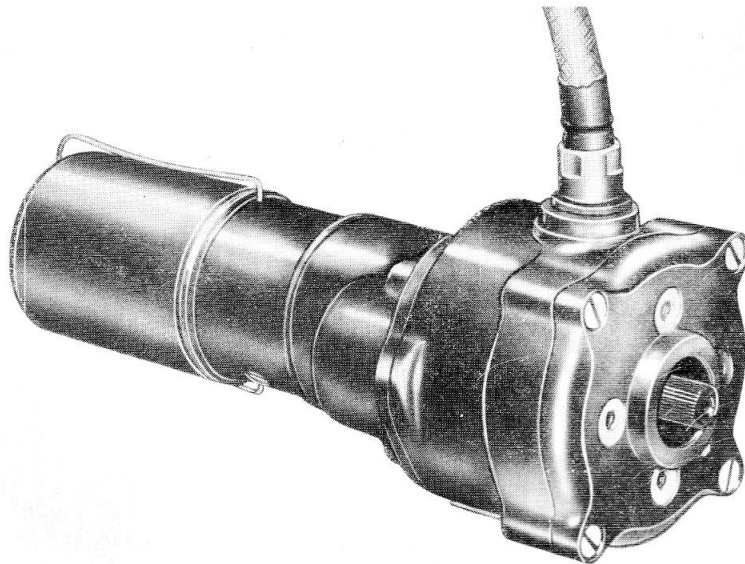

Fig. 1. Type C5511/2 actuator
1. This actuator (*fig. 1*) is generally similar to that described in the main chapter. The rotary movement of the output shaft is limited to 180 deg. by the two internal limit switches; on the external face of the end plate is a spigot marked by two sawcuts, which indicate the extremities of travel of a datum line cut in the end of the output shaft.